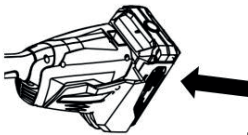

Fig. 18
1. Put the adapter into the machine (Fig 18), adapter is being sold separately. .